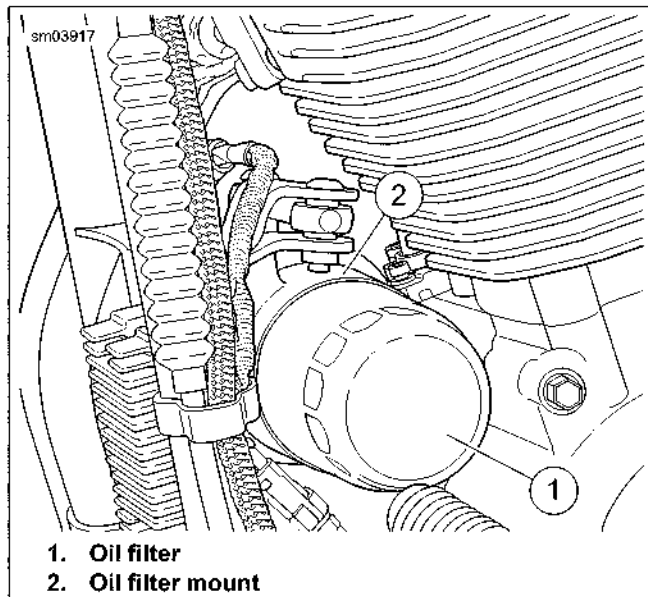

Figure 1-6. Oil Filter
See Figure 1-6. Turn oil filter (1) counterclockwise to remove from mount (2).